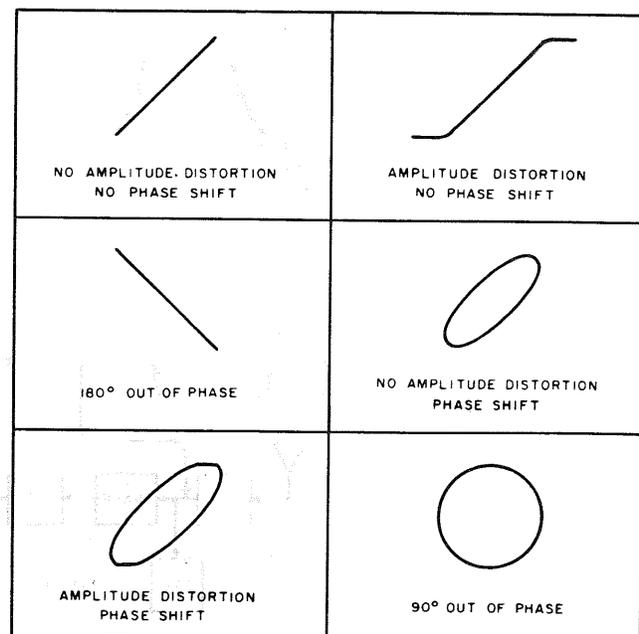
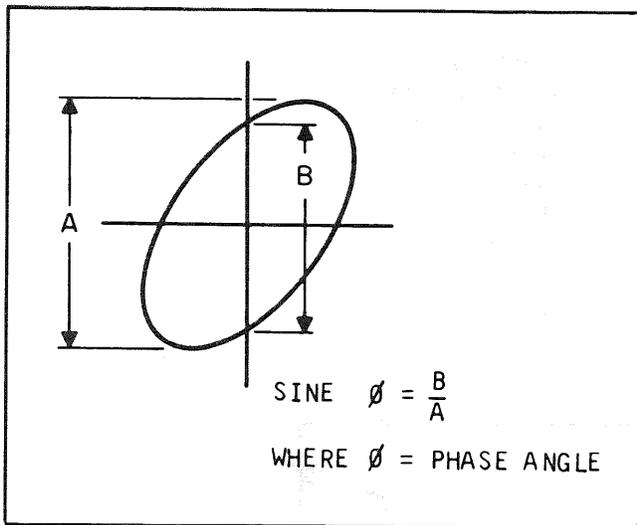

Fig. 22. Typical phase measurement oscilloscope displays
Fig. 23. Phase shift calculation
7. Some typical results are shown in Fig. 22. If the two signals are in phase, the oscilloscope trace is a straight line. If the vertical and horizontal gain are properly adjusted, this line is at 45°. A 90° phase shift produces a circular oscilloscope pattern. Phase shift of less (or more) than 90° produces an elliptical Lissajous' pattern. The amount of phase shift can be calculated by the method shown in Fig. 23.